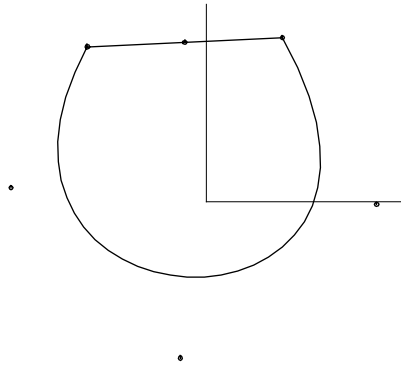

Fig. 3
- 6 **Select 'pt1'** and **'pt5'** and **make a Line** between them (see Fig. 3 below).